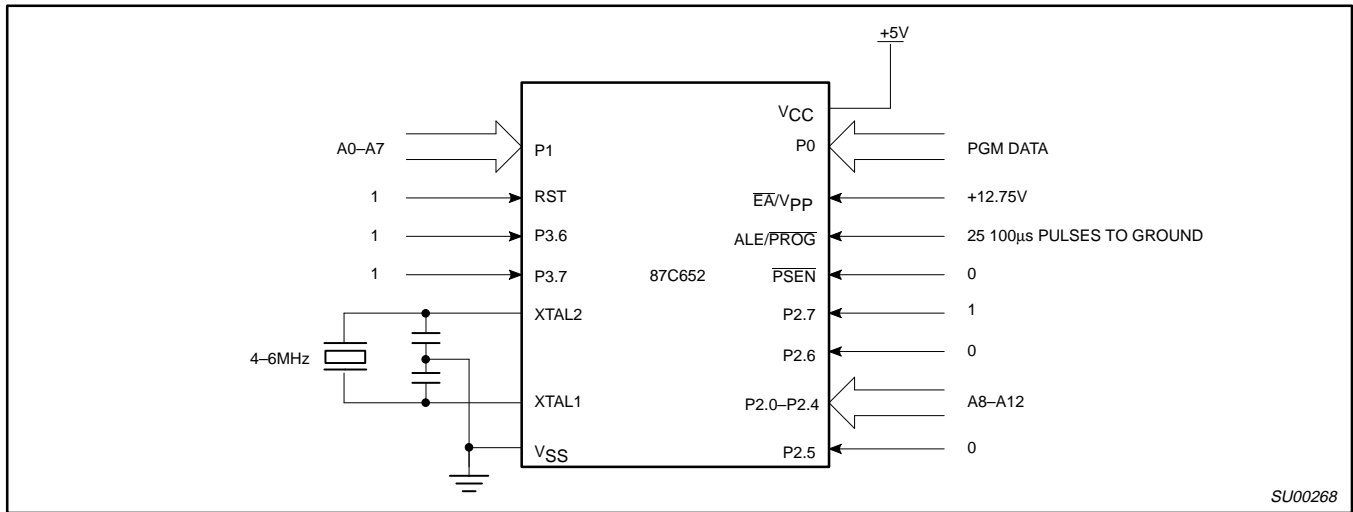
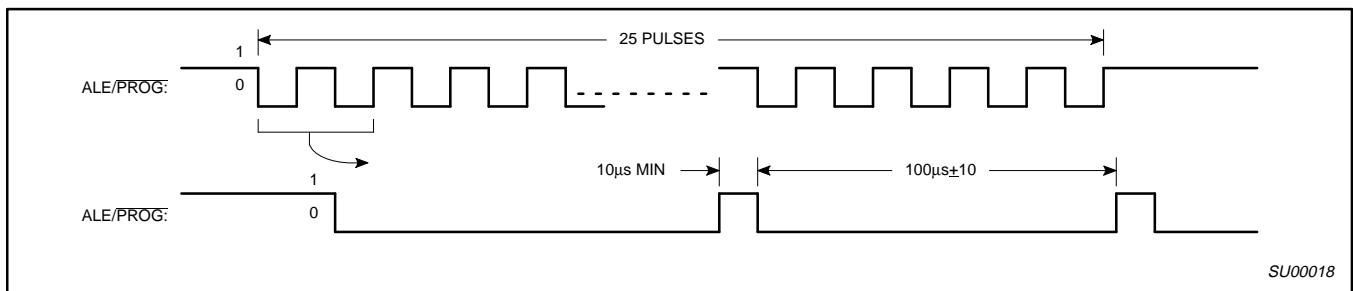
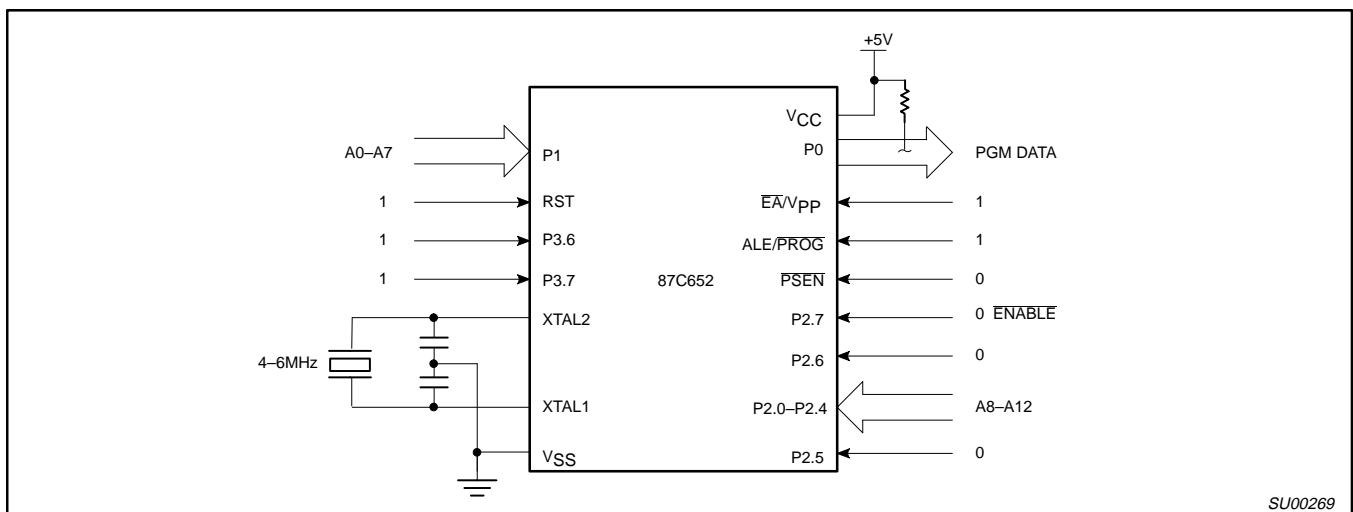

Figure 13. Programming Configuration
Figure 14. PROG Waveform
Figure 15. Program Verification
Table 4 shows the logic levels for reading the signature byte, and for programming the program memory, the encryption table, and the lock bits. The circuit configuration and waveforms for quick-pulse programming are shown in Figures 13 and 14. Figure 15 shows the circuit configuration for normal program memory verification.
The setup for microcontroller quick-pulse programming is shown in Figure 13. Note that the 87C652 is running with a 4 to 6MHz oscillator. The reason the oscillator needs to be running is that the device is executing internal address and program data transfers.
The address of the EPROM location to be programmed is applied to ports 1 and 2, as shown in Figure 13. The code byte to be programmed into that location is applied to port 0. RST, PSEN and pins of ports 2 and 3 specified in Table 4 are held at the 'Program Code Data' levels indicated in Table 4. The ALE/PROG is pulsed low 25 times as shown in Figure 14.
If lock bit 2 has not been programmed, the on-chip program memory can be read out for program verification. The address of the program memory locations to be read is applied to ports 1 and 2 as shown in Figure 15. The other pins are held at the 'Verify Code Data' levels indicated in Table 4. The contents of the address location will be emitted on port 0. External pull-ups are required on port 0 for this operation.
* FOR PROGRAMMING VERIFICATION SEE FIGURE 13.
FOR VERIFICATION CONDITIONS SEE FIGURE 15.